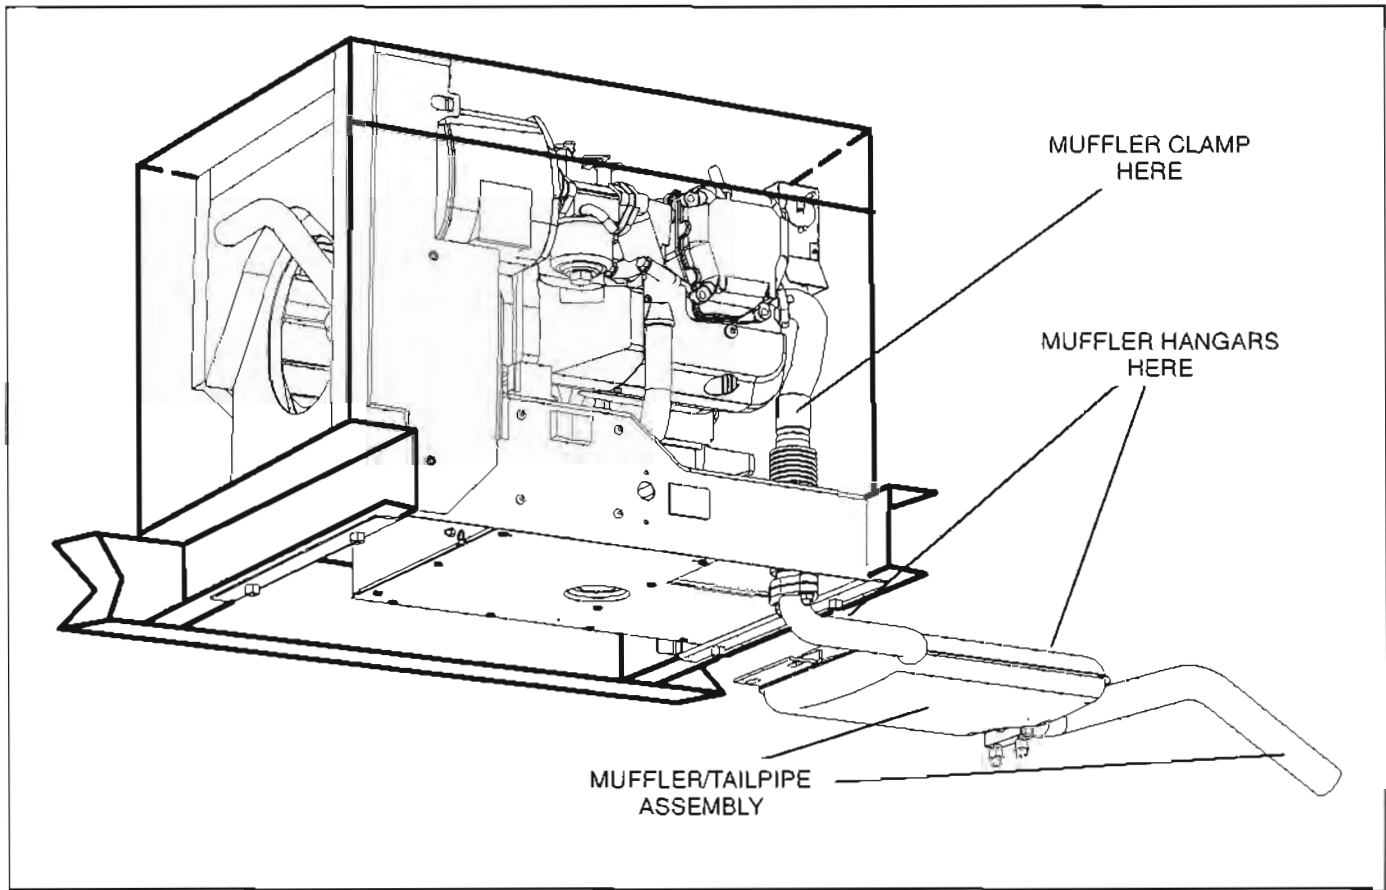

FIGURE 3. EXHAUST SYSTEM
1. The location must be such that the tailpipe clears the back of the coach body by at least 1 inch (25.4 mm) when installed (Figure 3).
This genset must be installed with the muffler/tail pipe assembly and mounting hardware shipped with the genset (Figure 3). The muffler has a U.S. Forest Service approved spark-arrestor. Failure to provide and maintain a spark arrestor can be a violation of the law.
Use the hardware in the muffler kit to install the muffler/tailpipe assembly in the orientation shown in Figure 3: